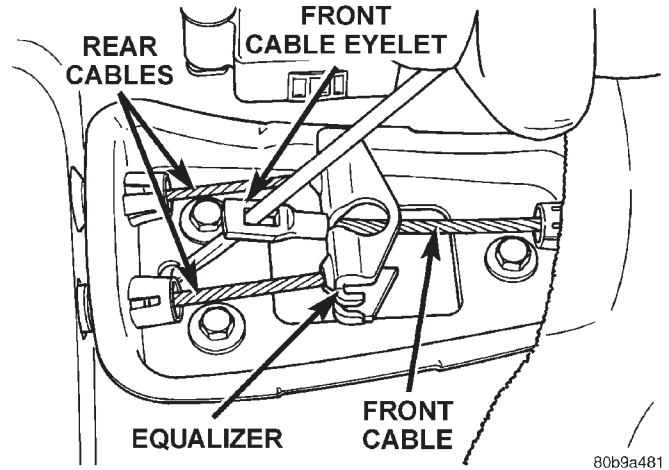

Fig. 47 Front Cable Eyelet
- (1) Remove center console, refer to Group 23 Body.
- (2) Lift up rear seat and carpet covering the parking brake cables.
- (3) Place a screw driver through the front cable eyelet (Fig. 47) and pry back on the front cable.